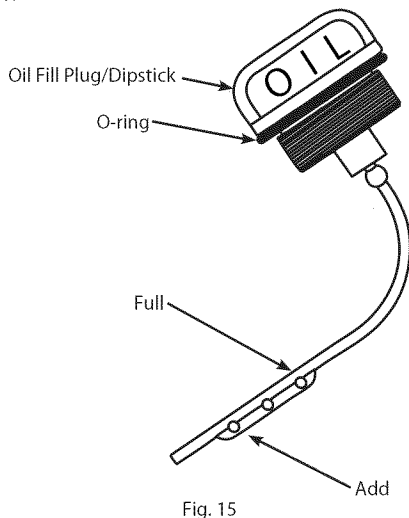

Fig. 15
5. Remove the oil fill plug/dipstick and check the oil level. Oil should be between the add and fill marks (Fig. 15).
NOTE: Carefully check the oil level with the dipstick. If the level is low, add a small amount of oil and recheck. Do not over fill (Fig. 15).